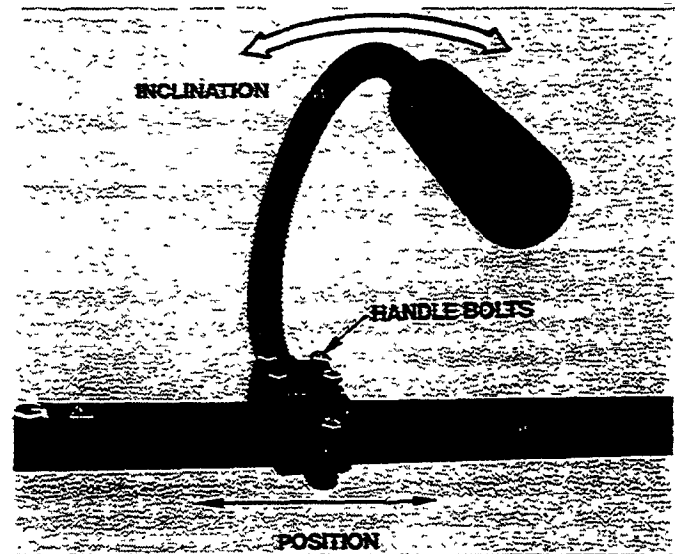

Figure 2A
#### 2. INSTALLING MID-HANDLE (Figure 2A)
- Install bolt, washer and wing knob (Figure 2A).